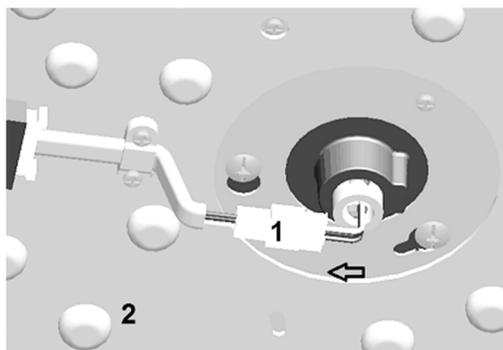

Fig. 8
1. Remove the lamp shade (5) from the lamp (4) base by turning it anti-clockwise.
2. Loosen **and remove** the screw (1) from the base bracket (3).
3. Align the two slot screws (2) with the keyhole slots of the lamp base (4).
6. Connect the **female** plug (1) **from the fan** to the **male** plug (1) on the LED board (2). (Fig.8)
7. Install the lamp shade (5) back onto the lamp base (4) by turning it clockwise.